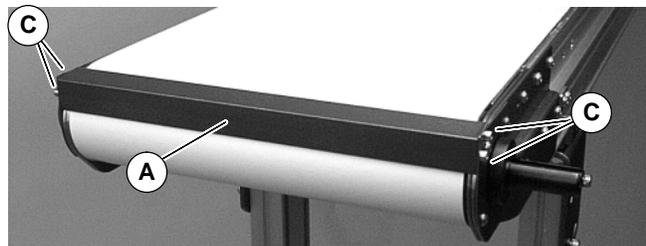

Figure 10
7. Install transfer plate (A of Figure 10) using screws (C). While maintaining clearance between transfer plate and conveyor belt, tighten screws (C) to 36 in-lb (4 Nm).